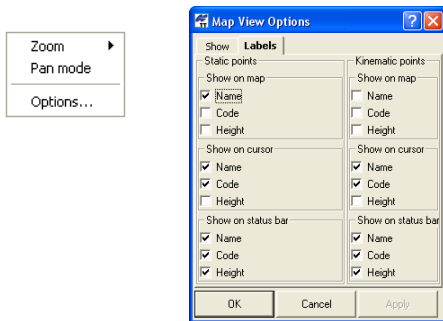

Figure 3-16. Pop-up Menu and Map View Options
To show grid and point names, codes and heights, right-click anywhere on the scheme then click **Options** on the pop-up menu (Figure 3-16 on page 32).
- Click and enable the desired fields to display them on the scheme (Figure 3-16 on page 32).